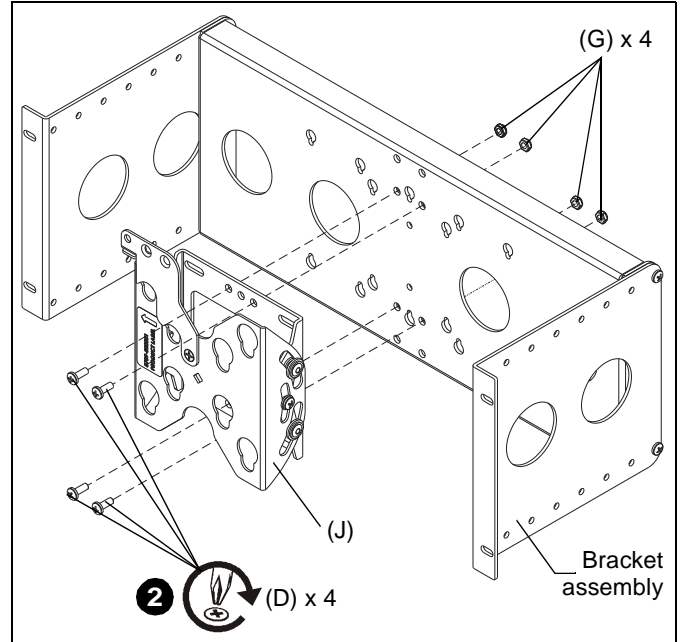

Figure 6
2. Install FTR1U wall mount (J) to the bracket assembly using four 10-24 x 1/2" Phillips screws (D) and four 10-24 lock nuts (G). (See Figure 6)
4. Install display to FTR1U wall mount (J) following instructions included with FTR1U wall mount.